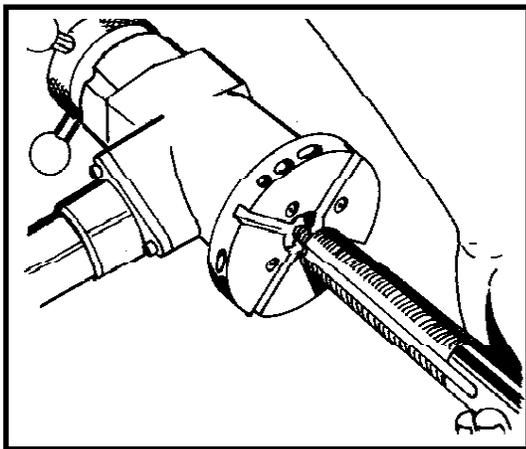

Figure 2
3. Insert the threaded end of the mandrel through the front of the rotating head, be careful not to damage the head bushing. Visually align the keyway slots of the mandrel with the internal keys of the beveling head (Figure 2).